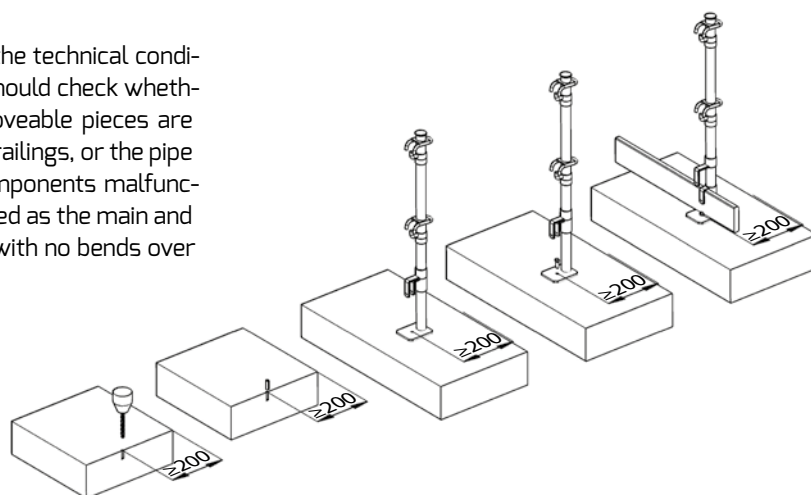

fig. 2 – Sequence of the railing assembly
- After inserting the anchor sleeve into the hole position the post and screw it to the surface with a torque of **50 Nm**. The arrow on the label on the post foot indicates the proper post position in relation to the ceiling edge (fig. 2).
- Install the planks **150 mm** high that form the toeboards by raising and lowering the bottom toeboard mountings. The toeboards must always be located on the inside of the building. Drive the nails into the toeboard clamping ring holes to stabilize the toeboards (fig. 2 and 6).